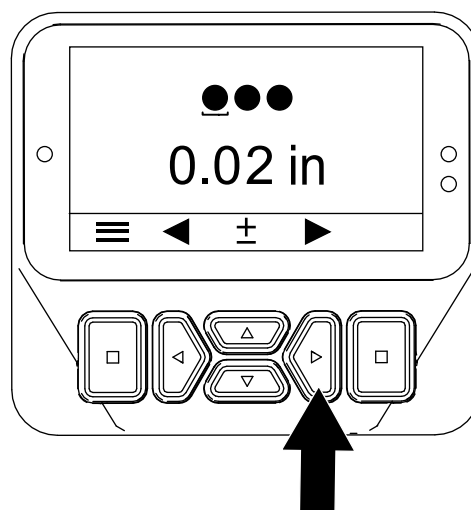

Figure 49
6. Press the right button to display the Setting the Tine Diameter screen (Figure 49).